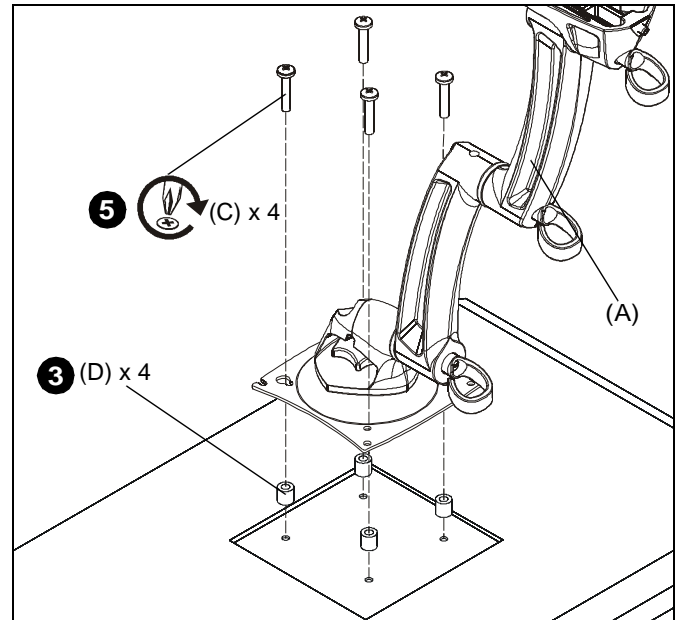

Figure 8
3. Place the four spacers (D) over each of the mount holes on the back of the display. (See Figure 8)
4. Pick up and orient the mount (A) so that the mounting holes are aligned with the holes in the spacers; rotate the bracket as required. (See Figure 8)
5. Using Phillips screwdriver, install four M4x25mm screws (C) through the mounting holes, through the spacers and into the display. (See Figure 8)